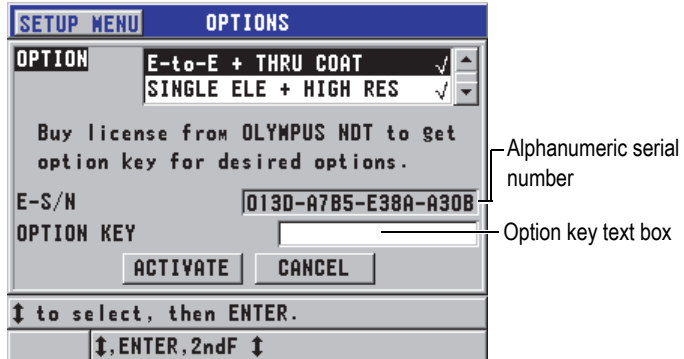

Figure 6-1 The **OPTIONS** screen
2. In the **SP MENU** (see Figure 4-2 on page 47), select **OPTIONS** (see Figure 6-1 on page 71), take note of the 16-digit alphanumeric serial number appearing in the **E-S/N** field.
4. In the **OPTIONS** screen (see Figure 6-1 on page 71):